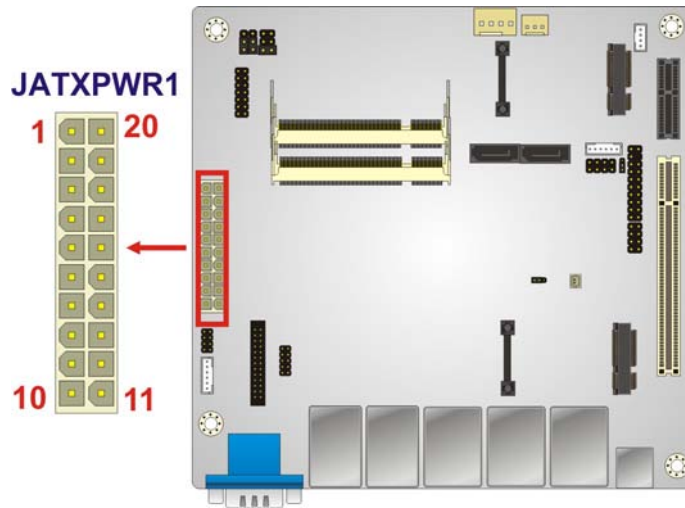

Figure 3-5: ATX Power Input Connector Location
- CN Location: See **Figure 3-5**